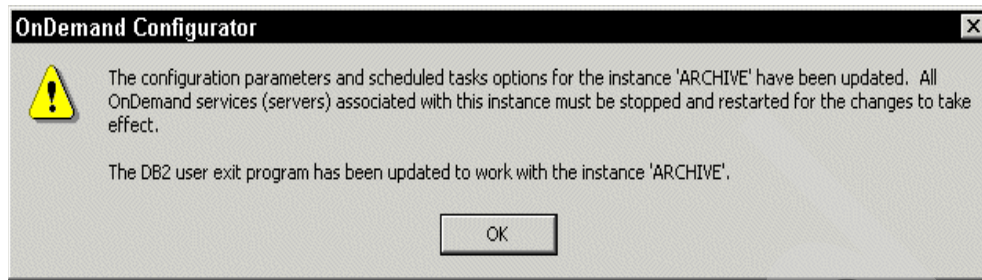

Figure 8-31 Updating the OnDemand instance
- e. You will see a warning stating that the OnDemand services must be restarted for the changes to take effect, as shown in Figure 8-31.